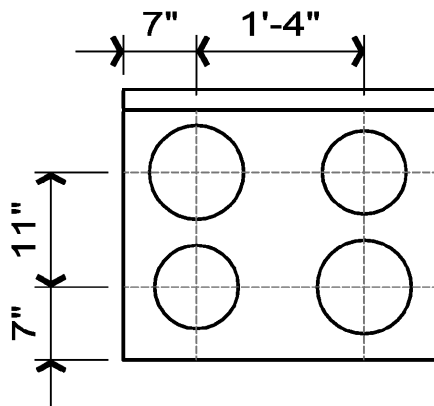

FIGURE 4-2.13 Adding guides
39. Use the **Tape Measure** tool to create the four guides dimensioned in Figure 4-2.13.
40. Using the **Circle** tool, draw two 9½" Dia. circles and two 7½" Dia. circles using the intersections of the *Guides* to locate the centers of the circles (Figure 4-2.13).